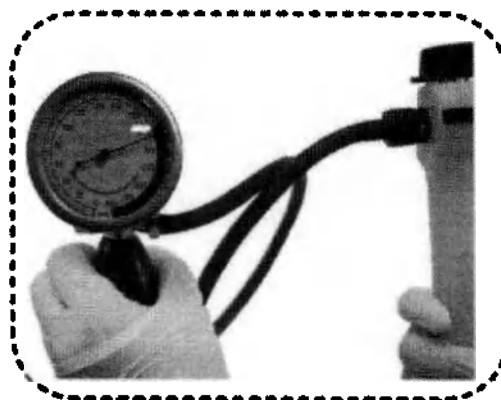

Fig 7.11
- Only the duct of leakage tester and the pressure compensation cap can be immersed.(as shown in Fig 7.11).Immersion of other components of the leakage tester may lead to its damage.
- The pressure shall not exceed 240 mmHg. If the pressure increases too much, it might damage the endoscope. Press the pressure release valve to discharge the air (as shown in Fig 7.11).